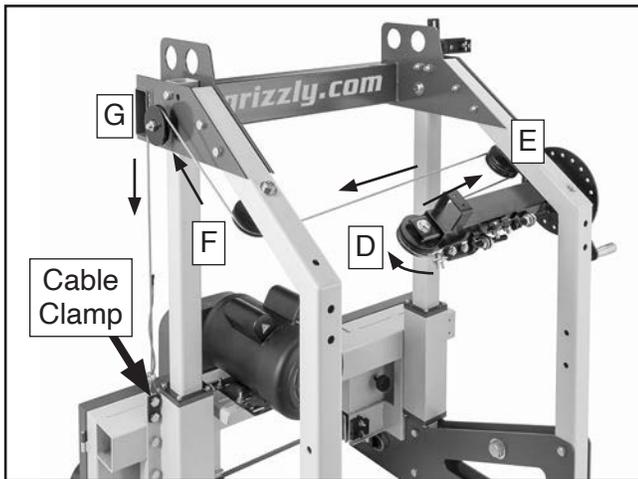

Figure 40. Lift cable B routed around pulleys (switch panel removed for clarity).
38. Route lift cable B around pulley D, pulley E, pulley F, and pulley G (see **Figure 40**), then loop lift cable around upper right cable plate hex bolt and secure with (1) cable clamp.